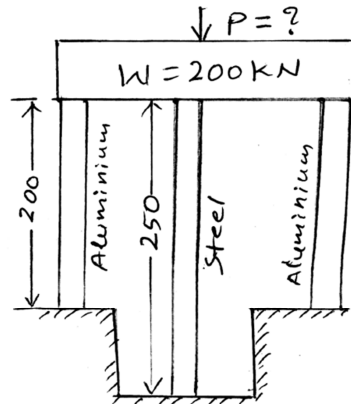

Fig. Q.3(a)
- 3 a. Three pillars, two of aluminium and one of steel support a rigid plat-form of 200 kN as shown in Fig. Q 3(a) If area of each aluminium pillar is 1000 mm^2 and that of steel pillar is 800 mm^2 , find the stresses developed in each pillar; 12